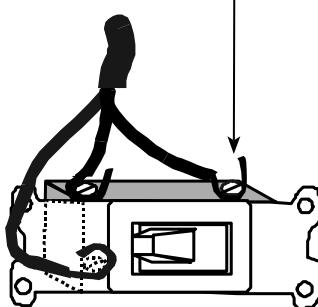

Figure 8-19
14. Connect the last unused wire to the single screw at the other end of the switch. Look at Figure 8-19. The light should work properly from both switches now.